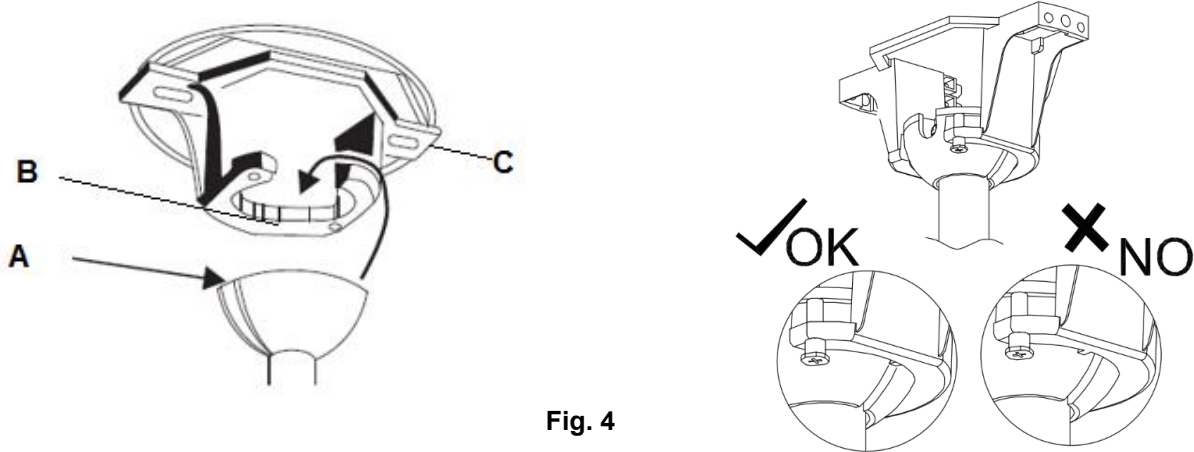

Fig. 4
Lift the fan assembly onto the mounting bracket. Ensure the registration slot (A) of the hanger ball is positioned on the stopper (B) of the mounting bracket (C) to prevent the fan from rotating when in operation. (Fig.4)